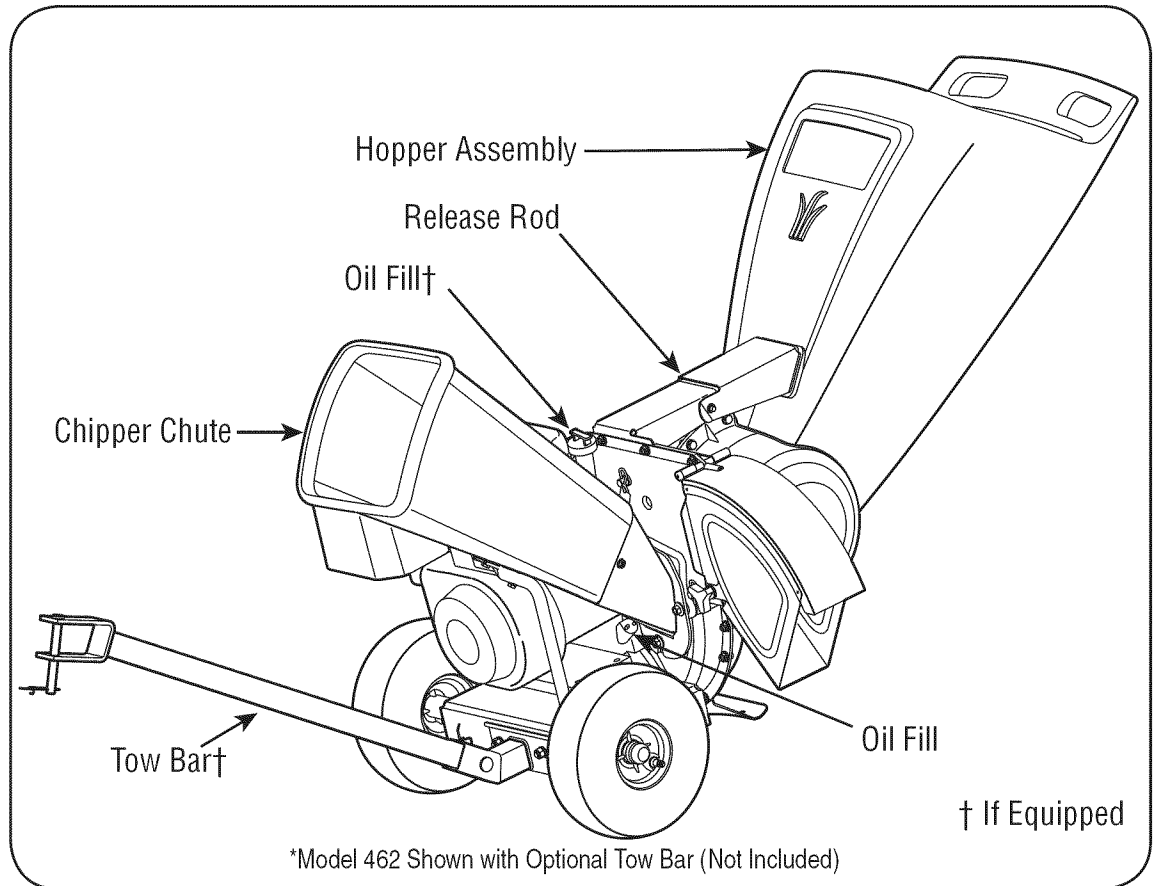

Figure 4-1
Allows twigs and small branches up to 3" (2" for Model Series 450) in diameter to be fed into the impeller for chipping. See Figure 4-1.
Allow leaves and small branches up to 1/2 diameter to be fed into the impeller for chipping and shredding. Material can be raked into hopper assembly by lowering the hopper assembly. See Figure 4-1.
The release rod is located on the impeller bracket assembly and it is used to release or lock the hopper when raising or lowering. See Figure 4-1.
Use the tow bar to tow the chipper shredder behind a tractor to a job site. See Figure 4-1.
1. Check oil level and add oil if necessary. Follow engine manual for this. See Figure 4-1 above for location of the oil fill.
2. Service the engine with gasoline as instructed in the engine manual. See Figure 4-1 above for location of gas fill.
2. With the other hand pull out on the release rod and lower the hopper assembly to the ground. See Figure 4-1.